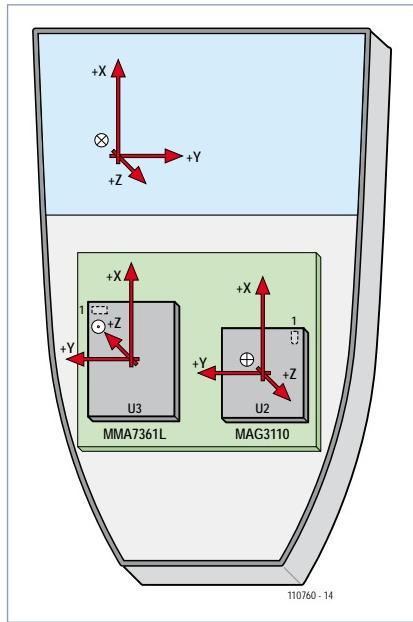

Figure 6. The rules for orientation of the axes must be transferred to the PCB and the detector it carries. A little bit of software takes care of the rest.
**Figure 6** shows the detector sensitivity axes and those of the device. It can be seen that the detectors have been oriented (turned) in such a way that their sensitivity X axes are inline (or parallel) with the unit's X axis, and in the same sense. Perfect! For the Y axis, we are still in line, but the sense of the vectors is reversed for both detectors. The directions with arrows tell us that the values returned by the detector vary in the opposite sense to what the NED